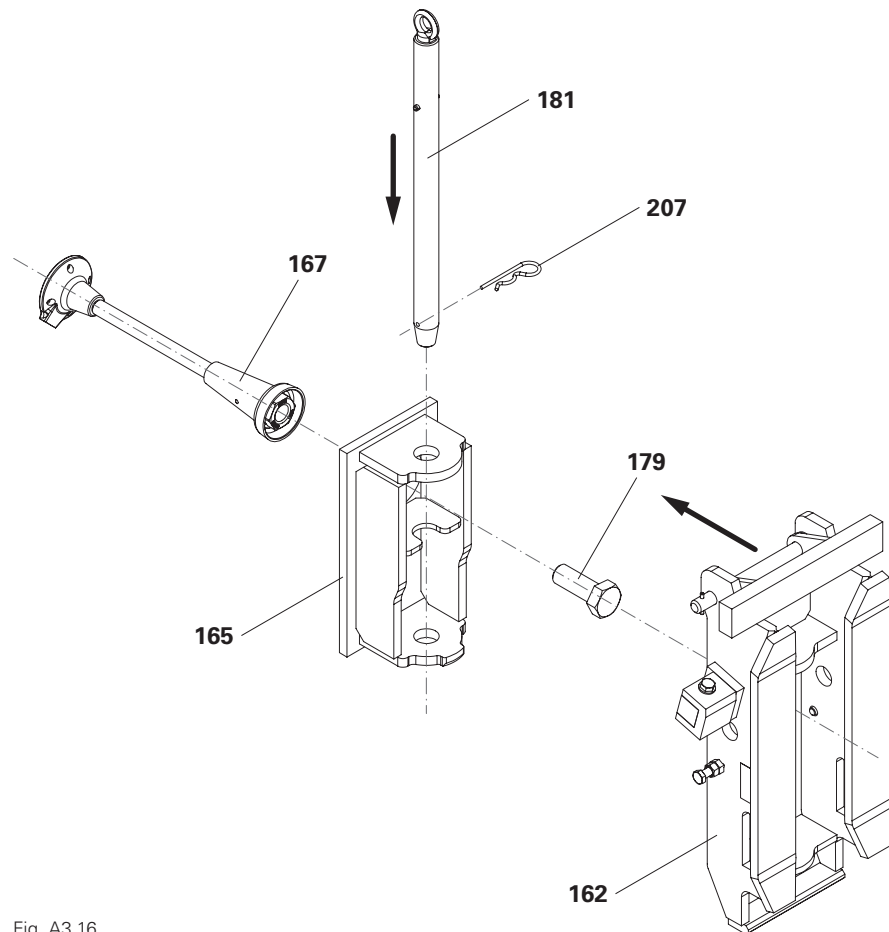

Fig. A3.16
1. Screw Tie Shoe-V ACS (165) with bolt ISO 4017 M30 x 80-10.9 (179) to climbing tie (167).
2. Slide Climbing Shoe IV ACS (162) onto Tie Shoe-V ACS (165).
3. Fasten them with bolts \varnothing 35 x 525 (181) and secure with cotter pins 5/1 (207).
- (Fig. A3.16)